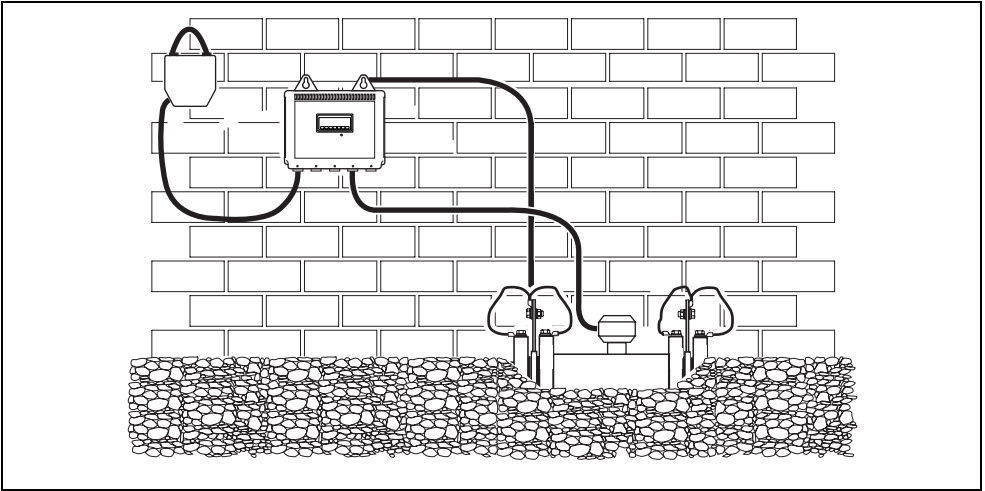
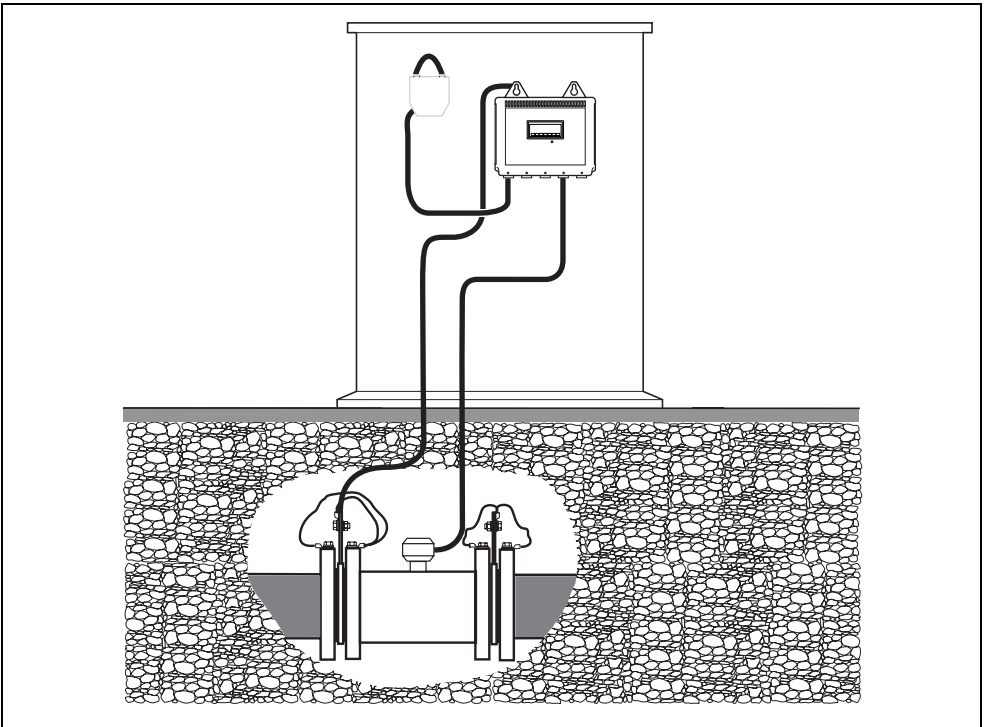

Fig. 3.3 Battery-powered AquaMaster Explorer Transmitter Mounted in a Chamber
Fig. 3.4 Battery-powered AquaMaster Explorer Transmitter Mounted in a Cabinet
- Connect the transmitter ground connection to the flowmeter body ground – see Fig. 3.3 and Fig. 3.4.